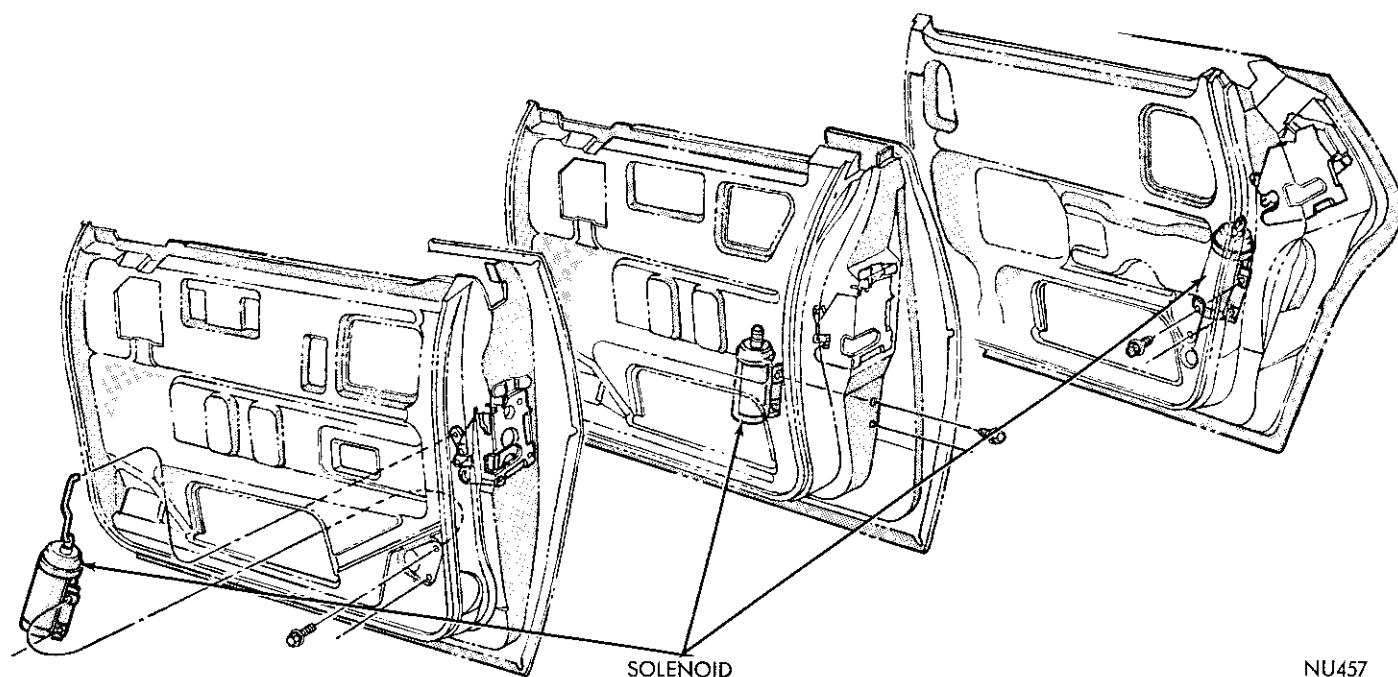

Fig. 28—Solenoid Attachment
- (1) Loosen solenoid to mounting bracket screws (Fig. 28).
- (2) Push lock lever to down position and slide solenoid to full down position in mounting bracket.
- (3) Raise lock lever to up position, extending solenoid rod to maximum up position.
- (4) Tighten solenoid to mounting screws and test operation of lock.
- (1) Disconnect solenoid link at solenoid (Fig. 28).
- (2) Remove solenoid lead wires.
- (3) Remove solenoid to door panel screws and remove solenoid assembly.